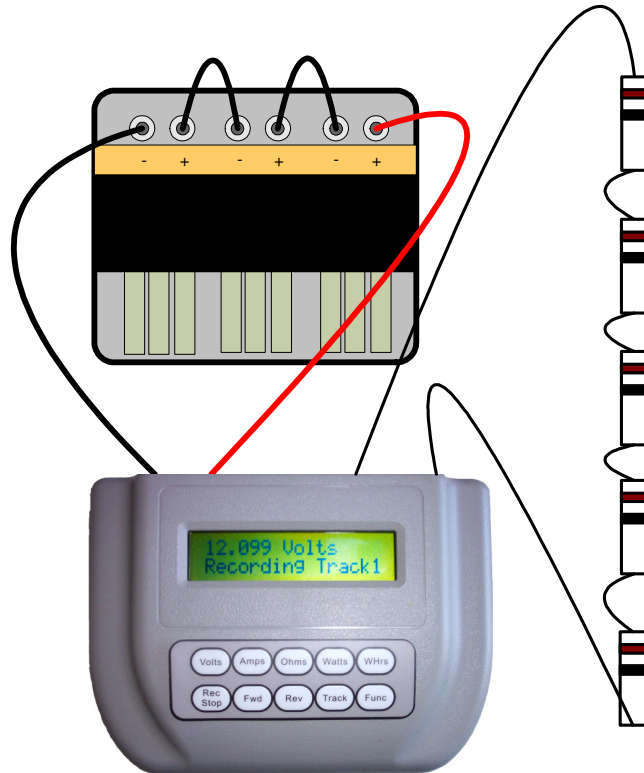

Figure 1 – Solar Panels in Series with 50 ohm Resistor Load
1. Setup the equipment as shown in Figure 1 below. Wire the solar panel modules in series and attach them to the Input terminals of the **Smart Meter – Data Logger™**.